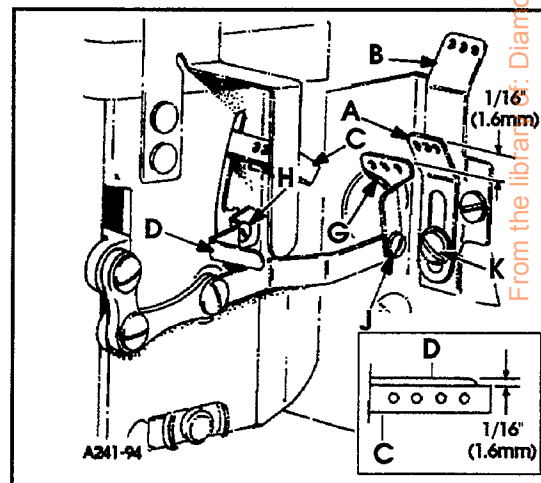

FIG. 20
With the needle bar at the top of its stroke set the adjustable frame needle thread eyelet (A, Fig. 20) in the lower mounting hole of eyelet (B), so the needle thread from eyelet (A) to the needle lever thread eyelet (C) will be in a straight line. If adjustment of eyelet (A) is necessary loosen screw (K) and move eyelet up or down as required. Retighten screw (K).